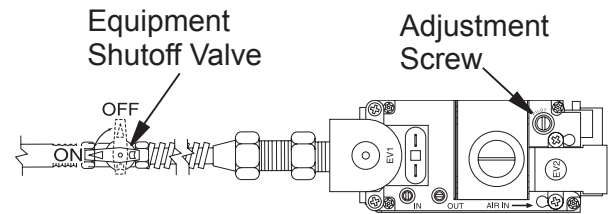

Figure 37 - Turning Equipment Shutoff Valve to the OFF Position
7. Turn equipment shutoff valve clockwise  to the OFF position (see Figure 37).
8. Wait five (5) minutes to clear out any gas. Then smell for gas, including near the floor. If you smell gas, STOP! Follow "B" in the safety information, column 1. If you don't smell gas, go to the next step.
- Turn adjustment screw marked PILOT clockwise to decrease or counterclockwise to increase the flame to proper size (see **Figure 37, Page 17**). Do not remove adjustment screw.